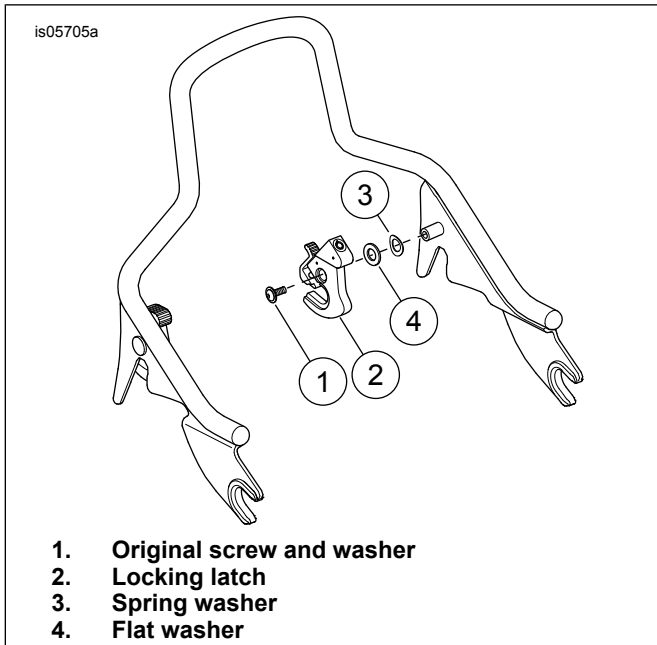

Figure 6. Inner Left Installation
Sissy Bar Upright Kit	See Figure 6, Inner Left Installation
2. See Figure 6. Install spring washer (3) on left mounting hub.
3. Install flat washer (4) from kit on mounting hub.
5. Install original screw and washer (1).